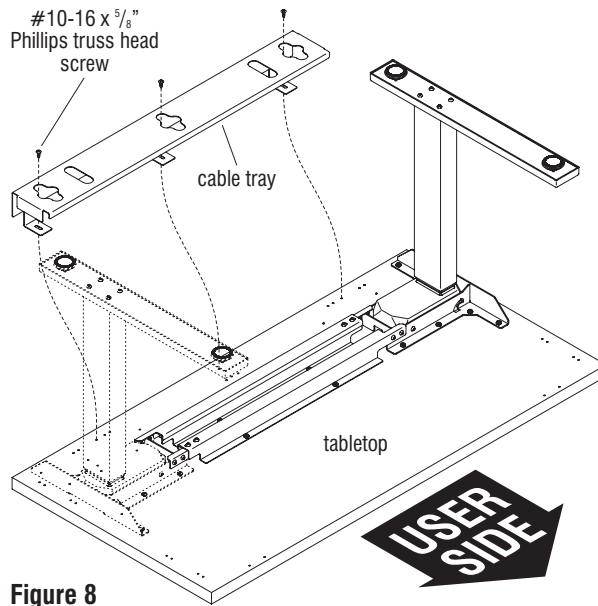

Figure 8
13. Position the cable tray over the tabletop, with the opening facing the user side of the table. Align the cable tray mounting holes with the pre-drilled holes in the underside of the tabletop, and secure using three #10-16 x 5/8" Phillips truss head screws. Do not over-tighten (Figure 8 & Detail J).